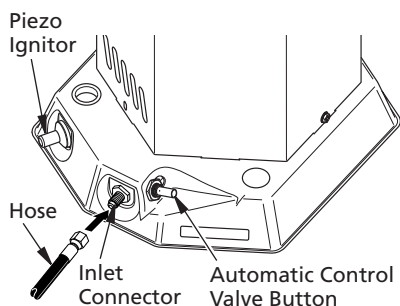

Figure 7 - Hose and Inlet Connector, Automatic Control Valve Button and Piezo Ignitor Button Locations
3. Connect hose to inlet connector (See Figure 7). Tighten firmly using a wrench.
5. Push in and hold automatic control valve button (See Figure 7, page 7). Push and release piezo ignitor button. Keep pushing piezo ignitor button until the burner lights. Hold control knob down for a maximum of 10 seconds while attempting ignition. If heater does not light, release control knob and wait 30 seconds. Repeat step 5 to start heater. **NOTE:** Keep hands and face away from outlet (around top of shell) of heater while attempting to start heater. After ignition, hold control knob down for approximately 30 seconds. This activates the automatic control system.